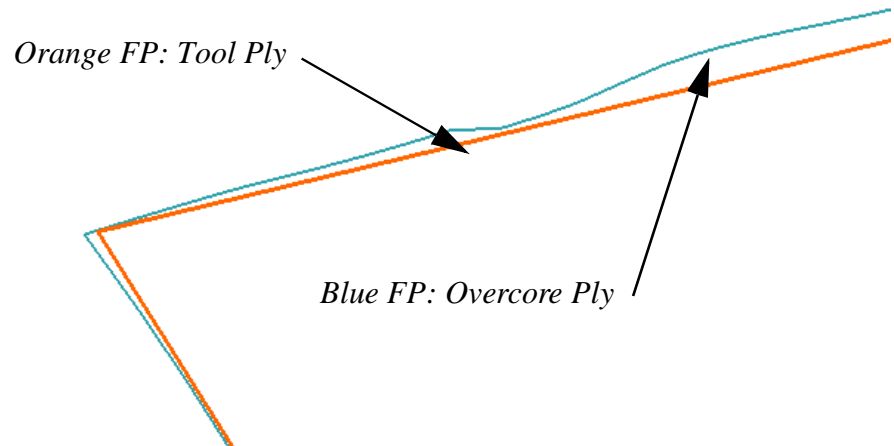

Figure 7–36
- Switch to the **NX** window. In the Part Navigator, highlight **NET\_FP\_P001** to **NET\_FP\_P008** to display the net flat pattern results. Note the bulges in the updated flat patterns due to the different topology of the **Overcore** surface as shown in Figure 7–36.